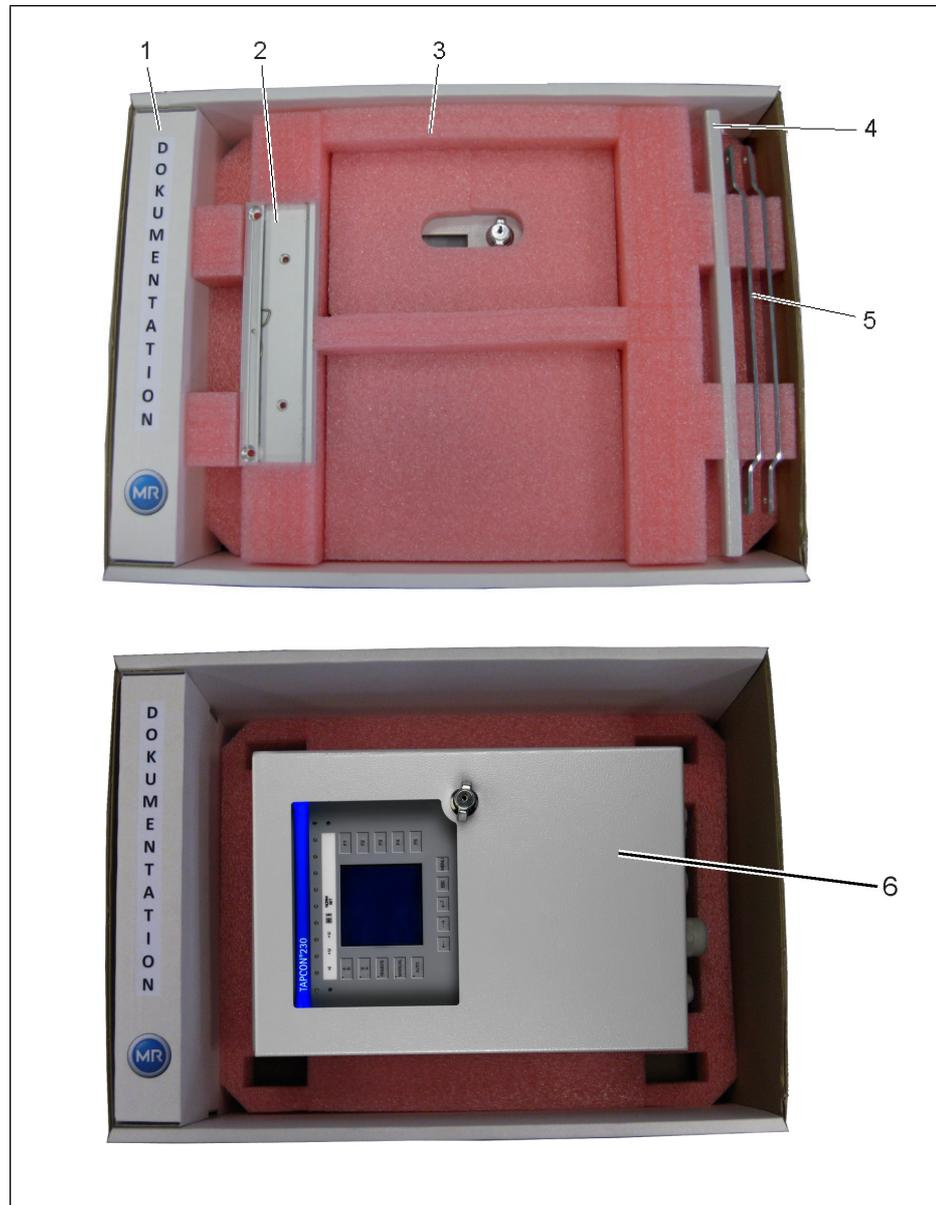

Figure 7 TAPCON® 230 AVT in packing box
Inlays inside the box stabilize the goods against undue changes of position and protect them from vibration, see (3) in **Figure 7**.
- ↳ The accompanying accessories and a separate box labelled "Documentation" on the left side of the box are now visible in the upper inlay, see (1) in **Figure 7**. This second box contains all the device documentation.